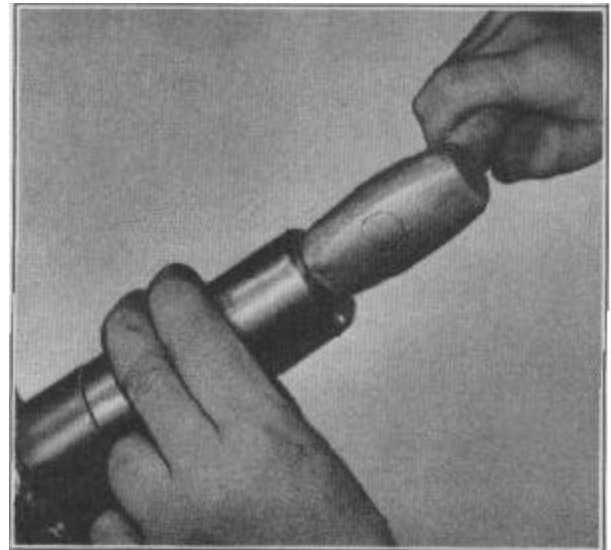

FIGURE 6
2. Drive bearing to proper depth as indicated on outside of "Replacer tool J- 2952", Figure 6.
NOTE: On cars equipped with the direction indicator, it is necessary to drive the bearing into the jacket tube 11/32" to compensate for the direction indicator switch case and cover assembly installation, Figure 6.